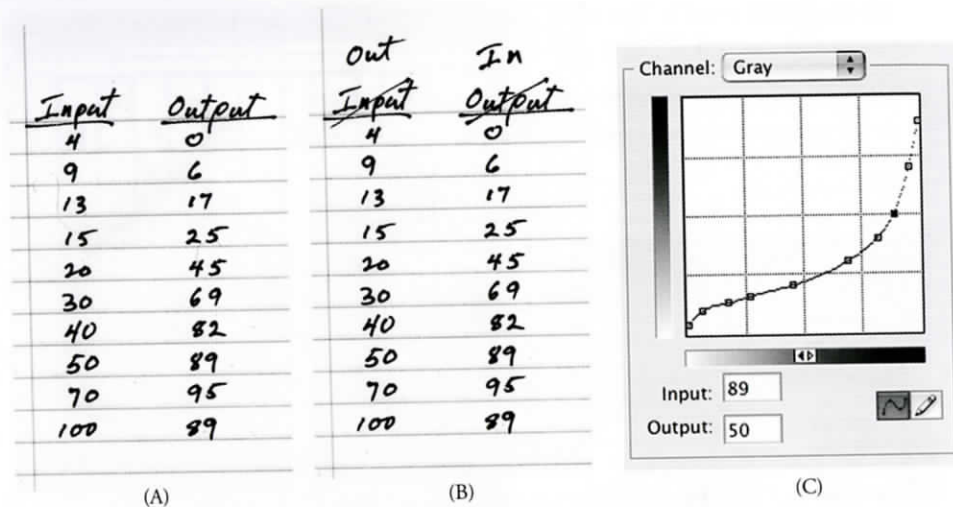

Figure 7-10 Making a correction curve.
2. Move the cursor over the step tablet image, and the Info palette will display the K value for the pixels underneath the cursor (in this situation the K value is essentially identical to percent gray value). As shown in Figure 7-10, make a table with two headings, Input and Output. Input is the percent gray value written within each square of the step tablet. Output is the K value you read from the Info palette for that particular square. In Figure 7-9, the eyedropper is located in a square labeled with the Input value of 20% and the Info palette shows an Output K value of 11%.
You do not have to measure every square of the step tablet, but measure more squares at the light and dark extremes since there will be greater changes to the curve in these parts. You will also likely have several input squares that read an Output K value of 0% (often the input squares from 0 through 20 or more will produce an output value of 0%). You need only to use the data for the last square, the one adjacent to the real density values. Similarly, you may have a few squares that read an Output value of 100%; pick the square that is adjacent to the real density values. When you are finished, you should have a table of paired Input/Output data points somewhat like the one shown as step 1 in Figure 7-10.
a print density of 24%, and so on). The correction curve uses the inverse of this table to correct each value in Photoshop before printing. With the correction curve in place, the Photoshop values will map directly to the target print densities (i.e., an original Photoshop value of 40% now maps to a print density of 40%) (Figure 7-10).
The data you collected from the scanned tablet in step 1 (Figure 7-10) describes how the original image was changed during the transition from a Photoshop image into a final print. You want your correction curve to do the exact opposite processing; so merely change Input to Output and Output to Input on your data table as shown in step 2. Now you have the data for your correction curve.
To build the curve, pick 10–15 Input/Output pairs from the table created in the previous section (Figure 7-10). Pick more pairs at the extremes (light and dark) of the curve since there will be greater change in this area of the curve. These are the values that show the highlights and shadows in the final print.
(Input = 0 and Output = 4 in the example table shown in Figure 7-10). Click the black point on the top right of the curve line. Its data values start at Input = 100 and Output = 100. Change these values to match your last data (Input = 99 and Output = 100 in the example table shown in Figure 7-10).